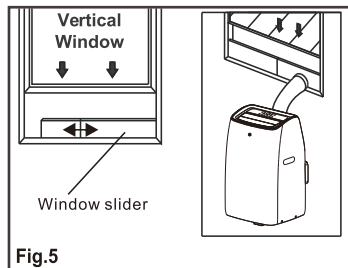

Fig.5
6. Affix the hose outlet into the window slider kit and seal. (Fig.5 &6).